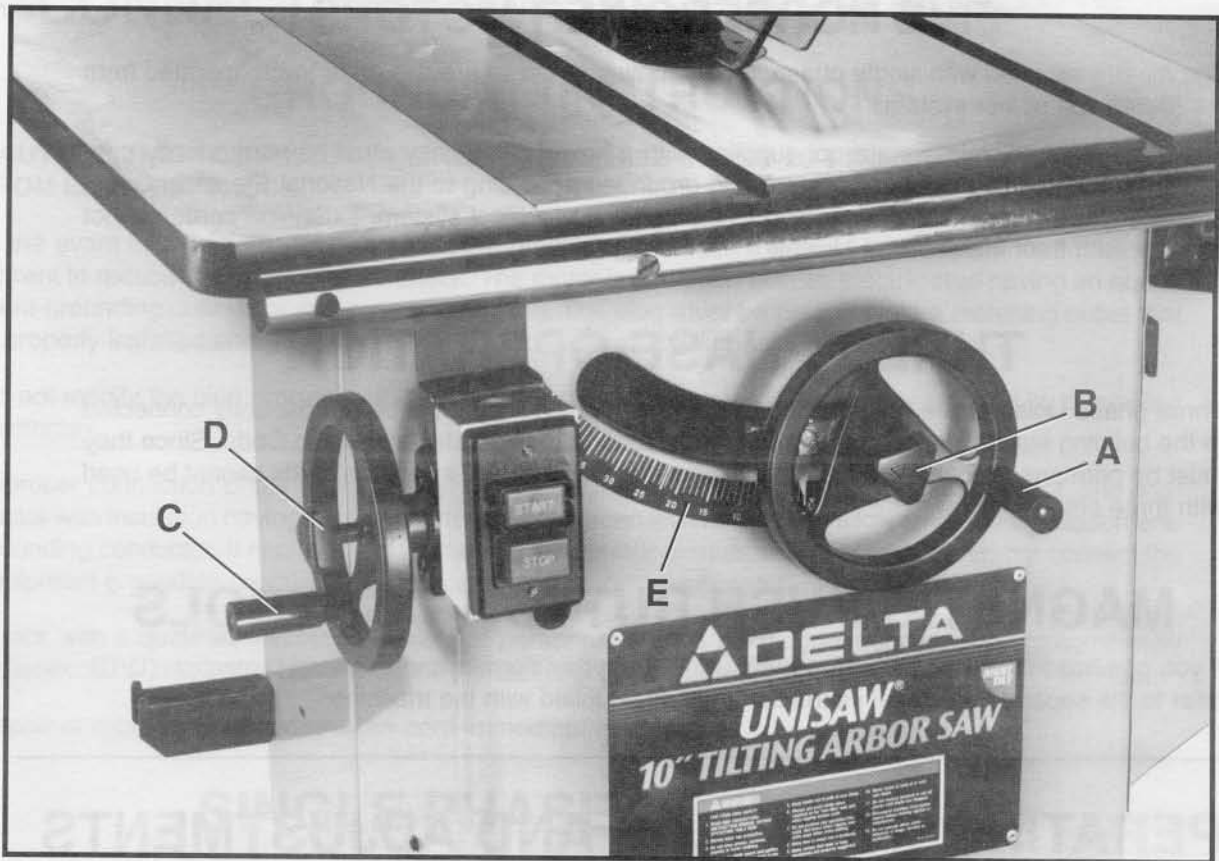

Fig. 45
The saw blade is raised and lowered with the front handwheel (A) Fig. 45. With the exception of hollow ground blades, the blade should be raised 1/8" to 1/4" above the top surface of the material being cut. With hollow ground blades, the blade should be raised the maximum to provide greater clearance. To raise the saw blade, loosen lock knob (B) Fig. 45, and turn the handwheel (A), clockwise. To lower the saw blade, turn handwheel (A) counterclockwise.
The saw blade is locked at any height by turning the lock knob (B) Fig. 45, clockwise. Due to the wedge action of this locking device, only a small amount of force is required to lock the blade raising mechanism securely. Any added force merely puts unnecessary strain on the locking device. Limit stops for raising or lowering are permanently built into the mechanism and need no further adjustment.
To tilt the saw blade to the desired angle, loosen lock knob (D) Fig. 45, and turn handwheel (C). A pointer indicates the angle of tilt on scale (E), which is marked in one degree increments. To lock the saw blade in the desired angle of tilt, tighten lock knob (D).